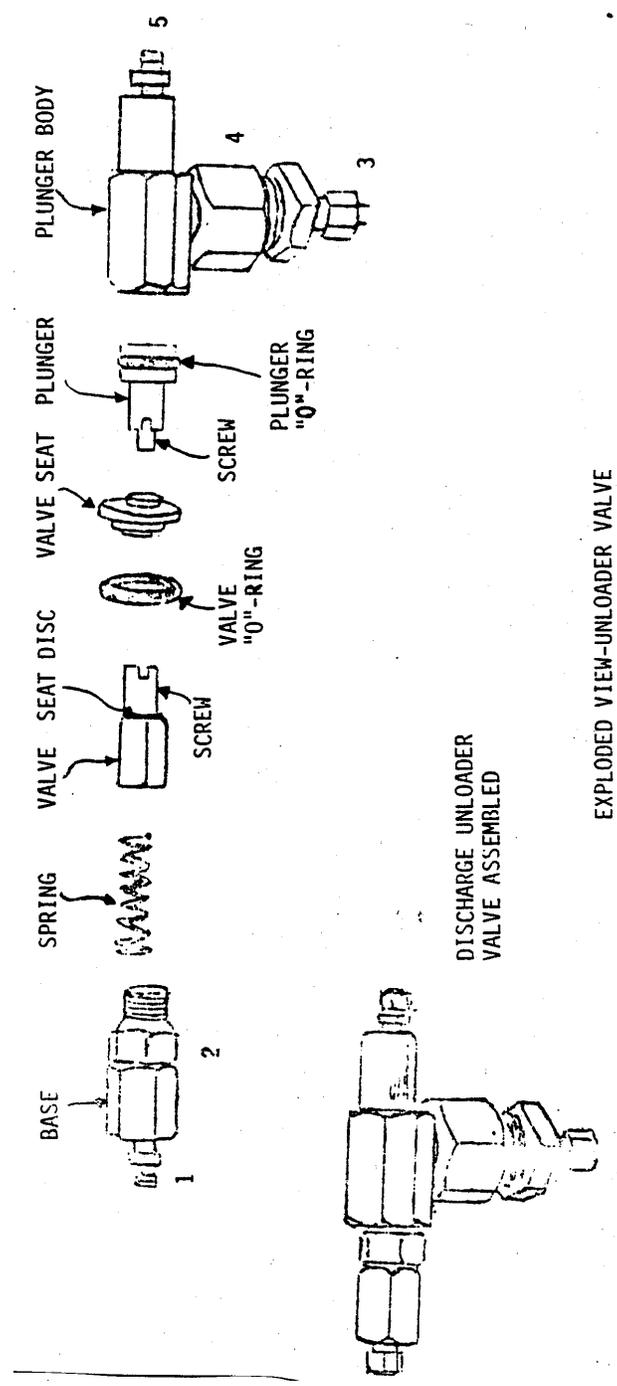
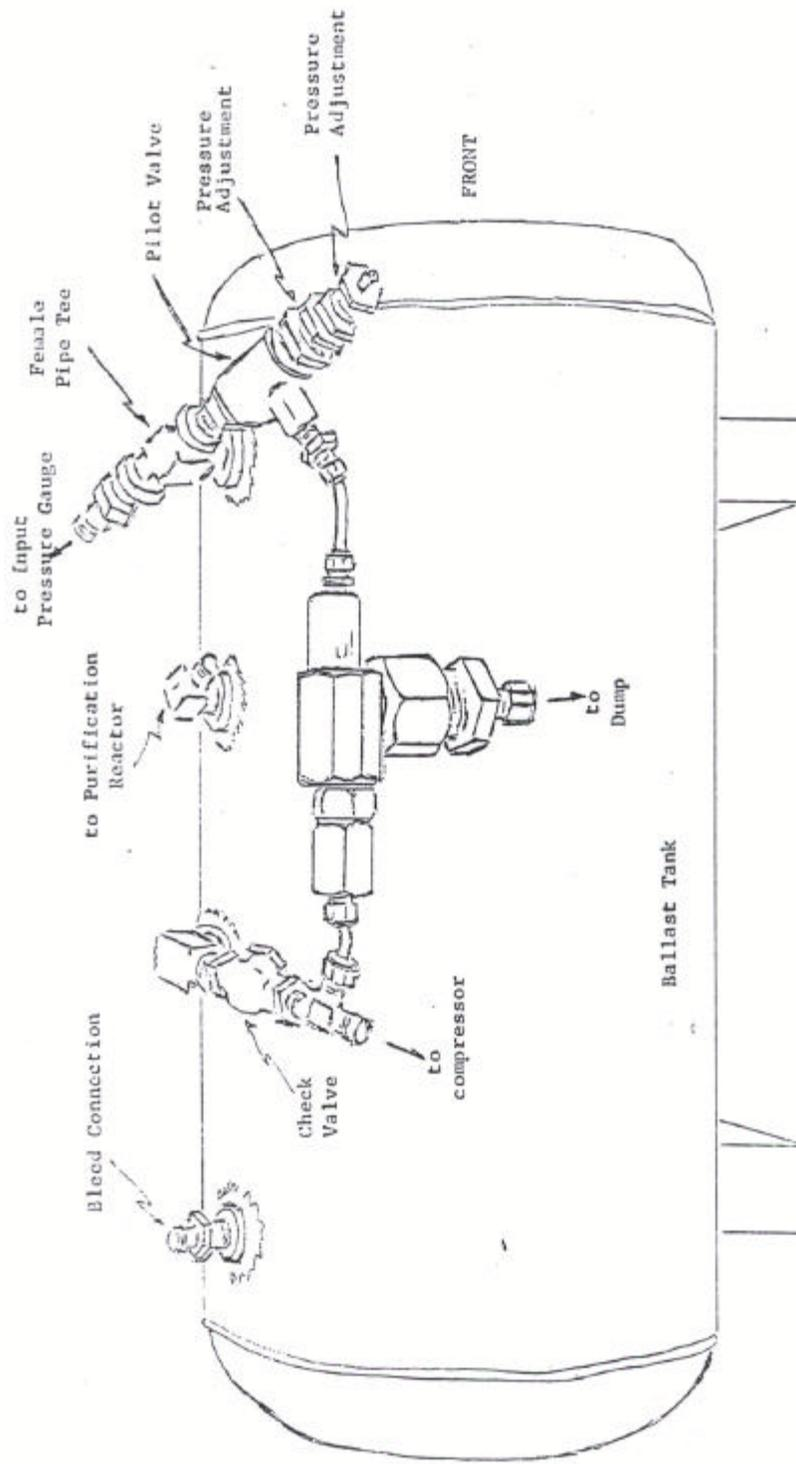

Figure F.1.3.2
Figure F.1.3.3
F.1.3.2 CLEANING AND LUBRICATING THE AIR OPERATED DISCHARGE UNLOADER VALVE (See Figures F.1.3.2 and F.1.3.3 for the numbered locations) - The plunger with the "O"- ring is the only free moving part in the unloader valve and moves back and forth within the plunger body. The constant cycling of this "O"- ring causes it to dry out and may actually cause the valve to "stick" open. This will result in fluctuating output pressures and low input pressures. The definitive symptom of this problem is a continuous flow of air out the unloader valve exhaust port to the dump. Periodic valve and "O"- ring lubrication will remedy this problem. The procedure follows:
4. Place the left end of the plunger body on a smooth, clean surface and insert a small rod through the fitting (10) until the internal parts are exposed. Clean all parts with alcohol and then lubricate each part with a very light coat of silicone oil.
**NOTE:** It is imperative that the valve is properly oriented so that the base is towards the compressor. See Figure F.1.3.3 for confirmation of proper assembly.